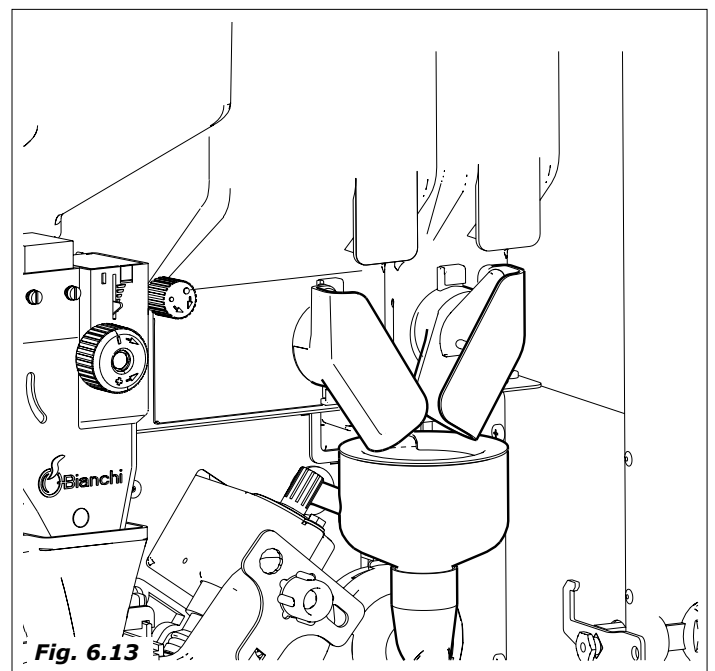

Fig. 6.13
- at the end of the water filling (Fig.6.13), effect a cleaning cycle of the mixer group so as to fill all the circuits and remove eventual residues from the boiler.